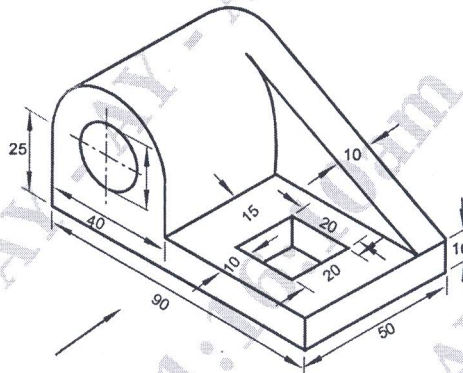

Fig.1
- Q.No.1** Using First Angle Projection, Draw the Orthographic Views of the object shown in Fig.1 below. **(25 Marks)**